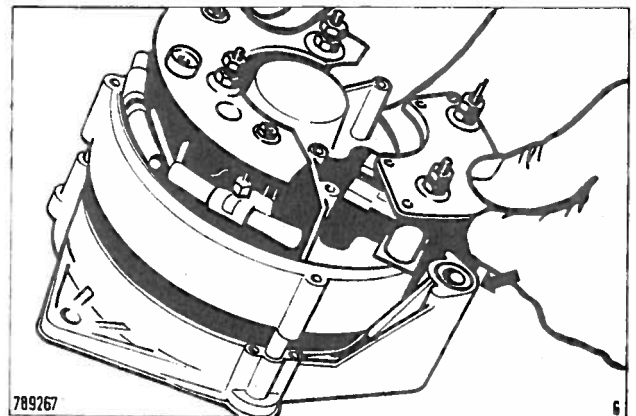

Fig. 48 Brush holder plate
2. Mark the position of the stator relative to the end frame. Unscrew the brush holder plate complete with the carbon brushes Fig. 48.